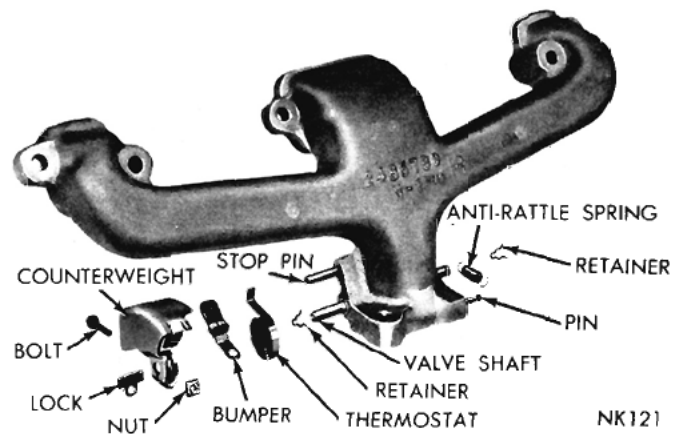

Fig. 19—Manifold Heat Control Valve (273 Cu. In. Engine)
(1) Remove the counterweight, lock and bumper from the end of shaft by loosening the clamp bolt (Figs. 19, 20 and 21).
(2) Unhook the thermostat from the stop pin and remove from the valve shaft slot.